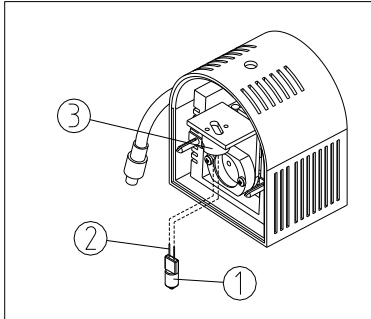

Fig.3
When assembling the halogen bulb for transmitted illumination, hold the bulb (1) with clean glove or tissue and fully insert the pins (2) into the receptacles (3) of the bulb holder. Make sure the bulb is vertical (See Fig. 3).